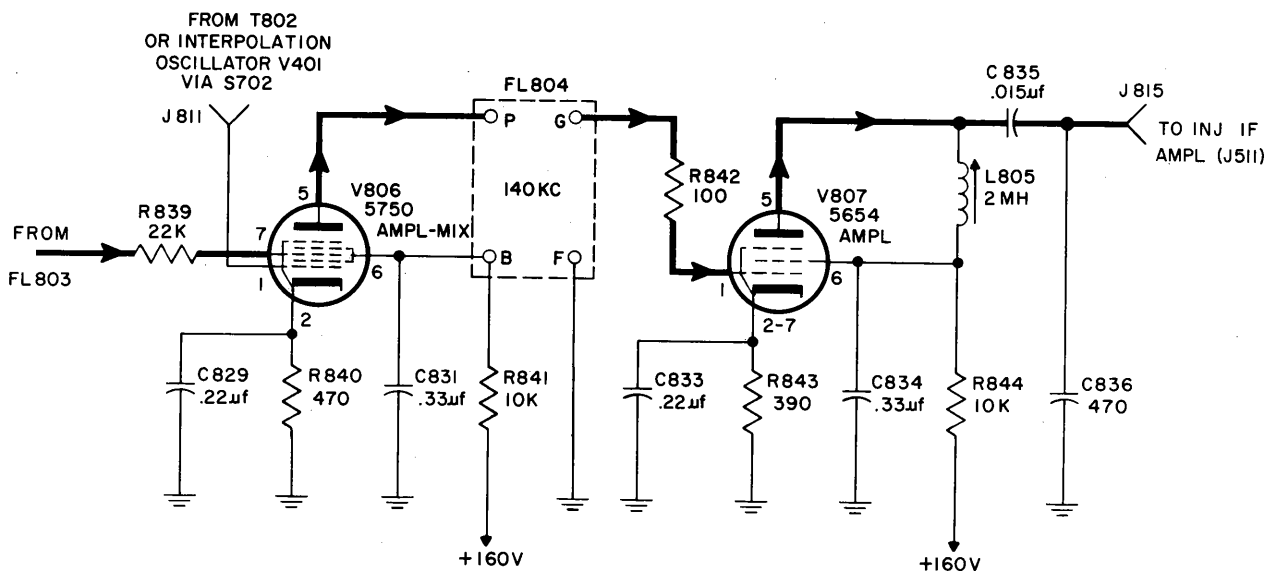

Figure 4-49. Amplifier-Mixer V806 and Amplifier V807, Simplified Schematic Diagram
e. AMPLIFIER-MIXER V806, AMPLIFIER V807. (See figure 4-49.)—Amplifier-mixer V806 produces a 140 kc signal for later use in establishing the final conversion signal of 80 kc.